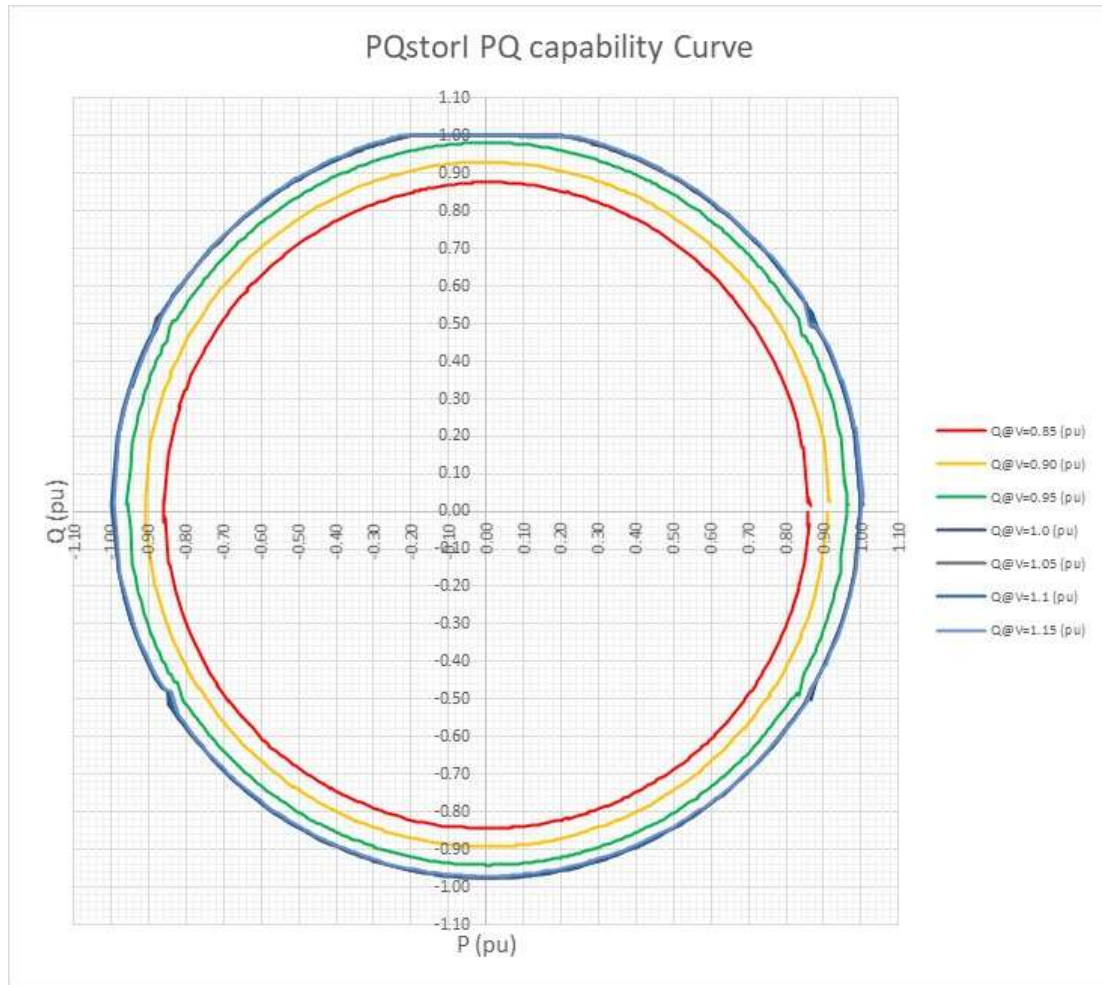

Figure 4 – PQ Capability curve for the PQstori module (in per units)
The PQstori PQ capability curve is shown in Figure 4. This demonstrates the reactive power (Q) support capability with respect to the real power (P) level for 7 different grid voltage levels (per unit values of 0.85, 0.9, 0.95, 1.0, 1.05, 1.1 and 1.15). Since there is no overload capability within the PQstori, all the curves above nominal have the same results as that at nominal voltage.